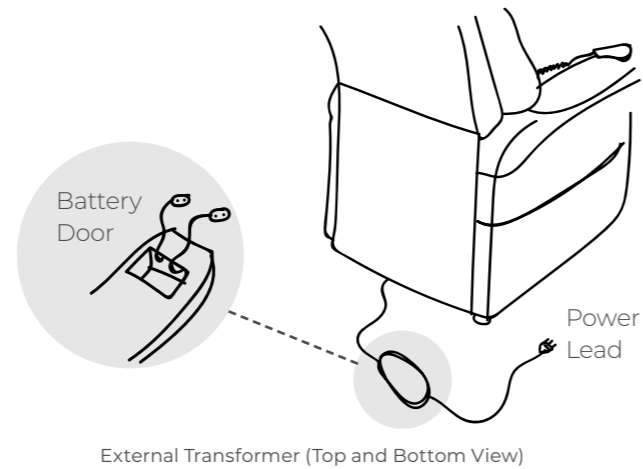

Figure 4.2.1 Lift Chair Battery Backup Location
3. Install two 9V lithium-ion batteries into the external transformer (**Fig. 4.2.1**).